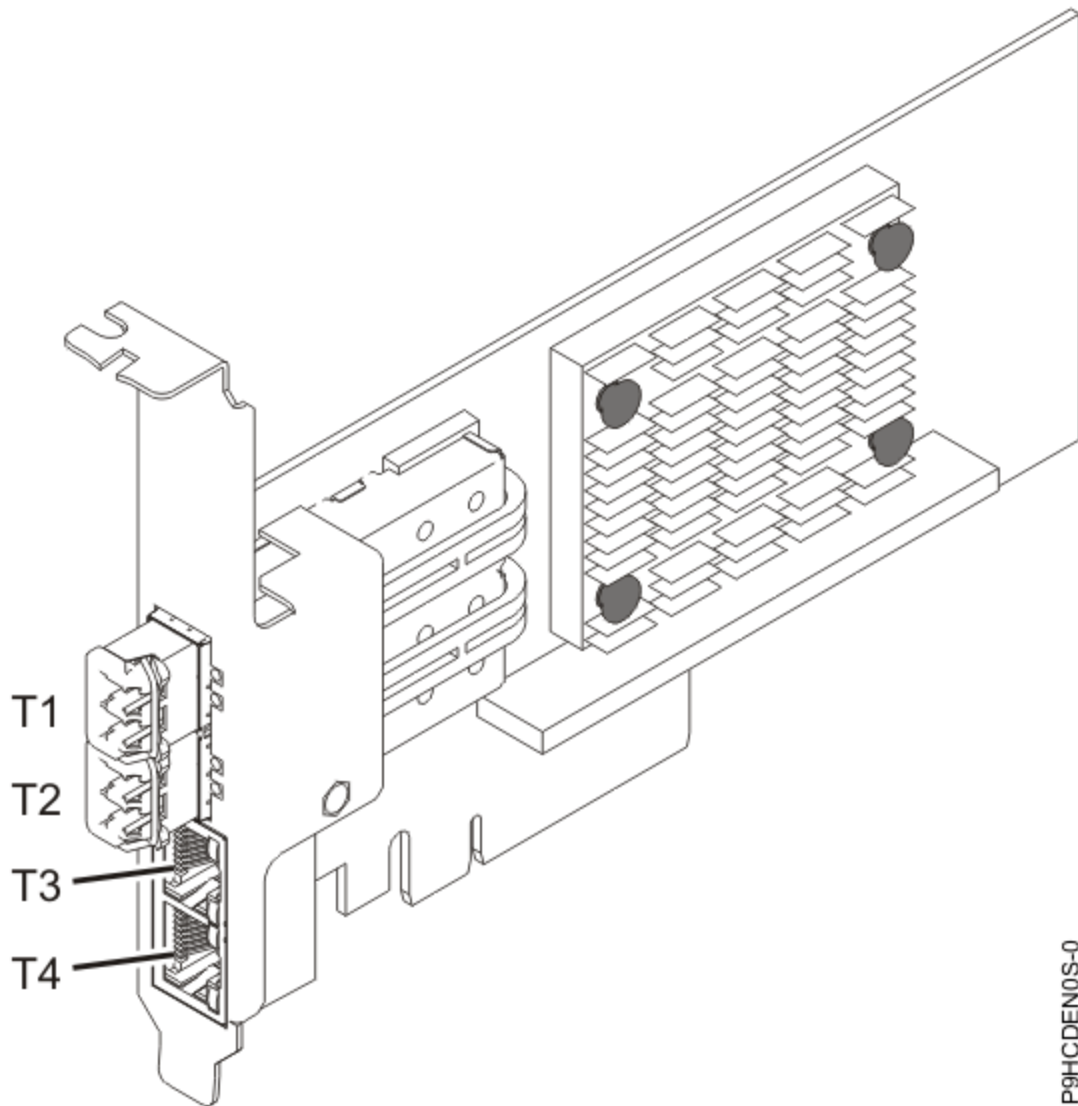
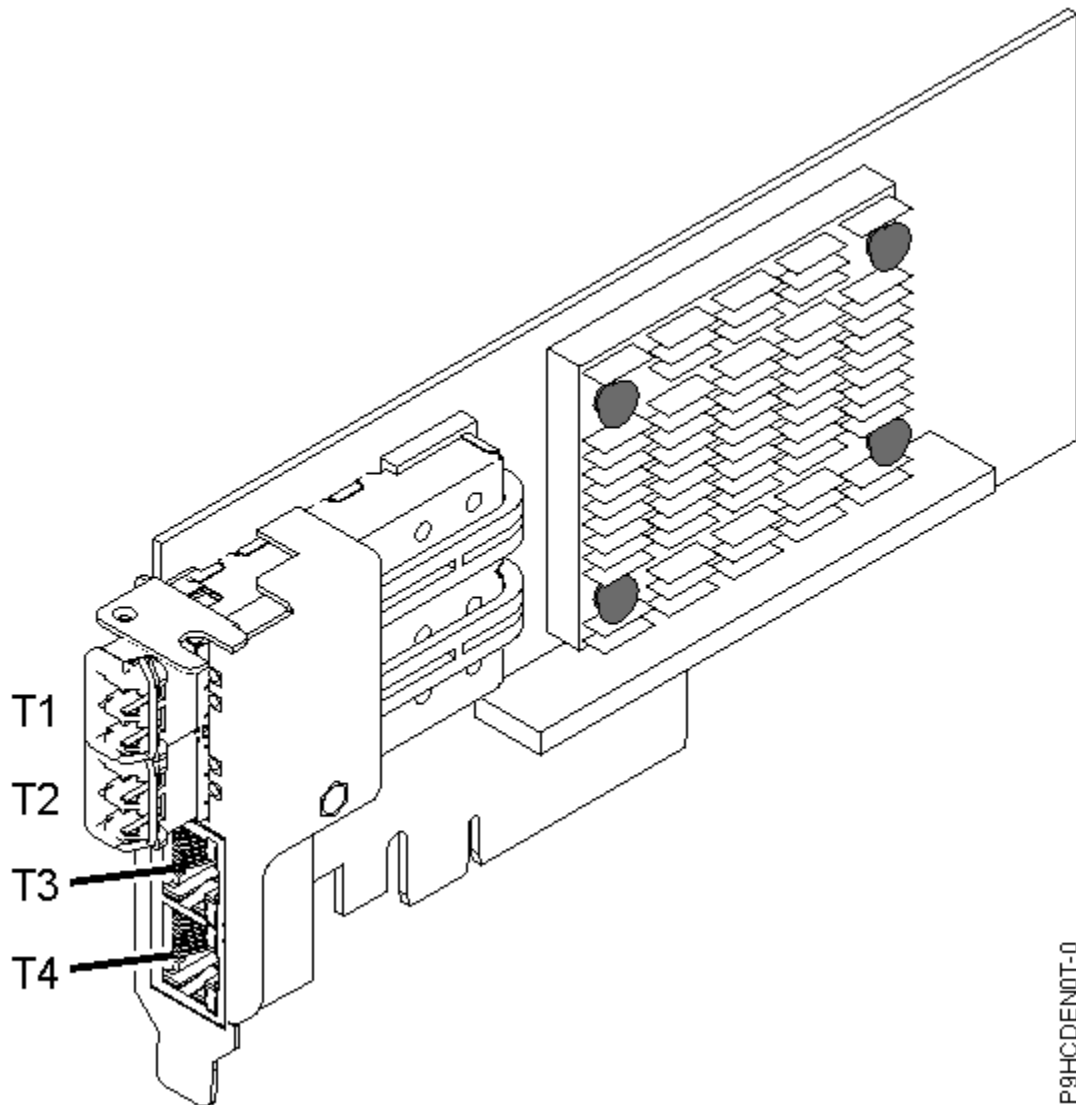

Figure 49. PCIe2 4-Port (10 Gb + 1 GbE) SR / Copper SFP +RJ45 adapter (FC EN0S and FC EN0U)
Figure 50. PCIe LP 4-port (10Gb+1GbE) SR / Copper SFP +RJ45 adapter (FC EN0T and FC EN0V)
The four-port adapter provides two 10 Gb small form-factor pluggable (SFP+) optical SR transceiver ports and two 1 Gb RJ45 Ethernet ports. The two 10 Gb SR ports have little connector (LC) duplex-type connectors. The optical transceiver uses shortwave laser optics and is attached with MMF-850nm fiber cabling with LC connectors. See “Cables” on page 76 for more information about the optical cables. Each 10 Gb port provides Ethernet connectivity with a nominal data rate of 10 Gbps (gigabits per second). Figure 49 on page 74 shows the FC EN0S and FC EN0U adapter. Figure 50 on page 75 shows the FC EN0T and FC EN0V adapter.